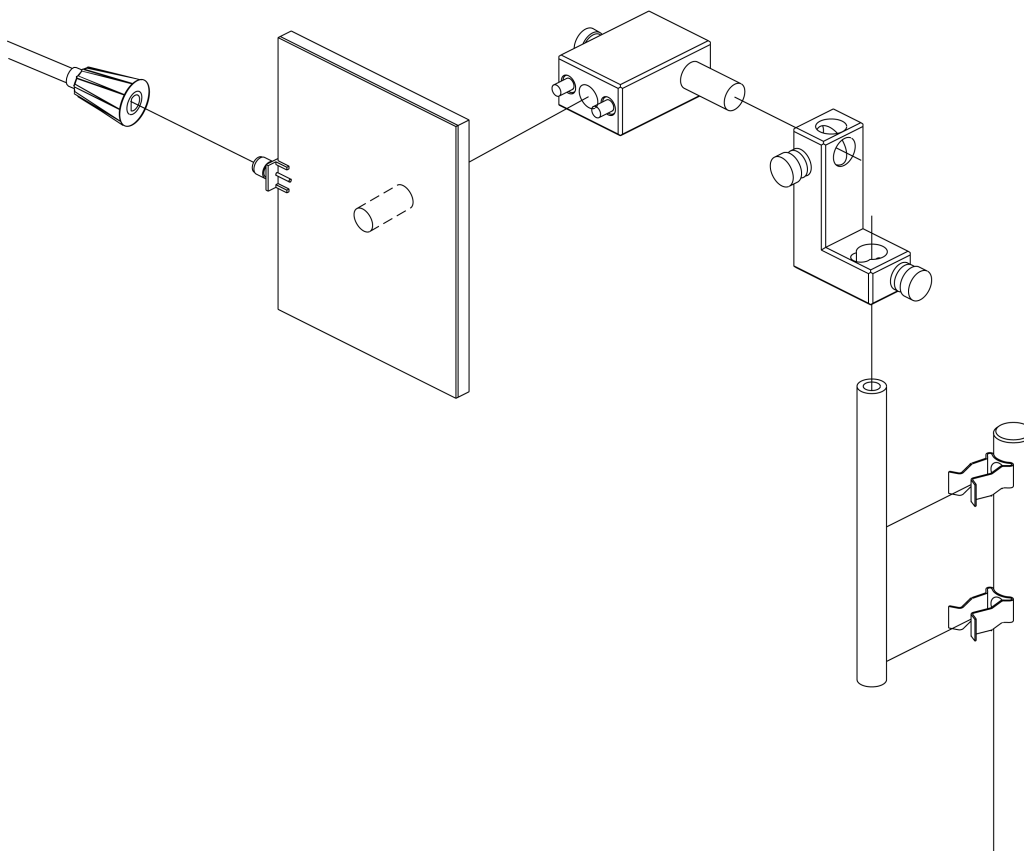

Figure 19. Set-up of the parallel-fed microstrip antenna in the E-plane.
- 9. Orient the parallel array antenna for an acquisition in the E-plane, as shown in Figure 19.